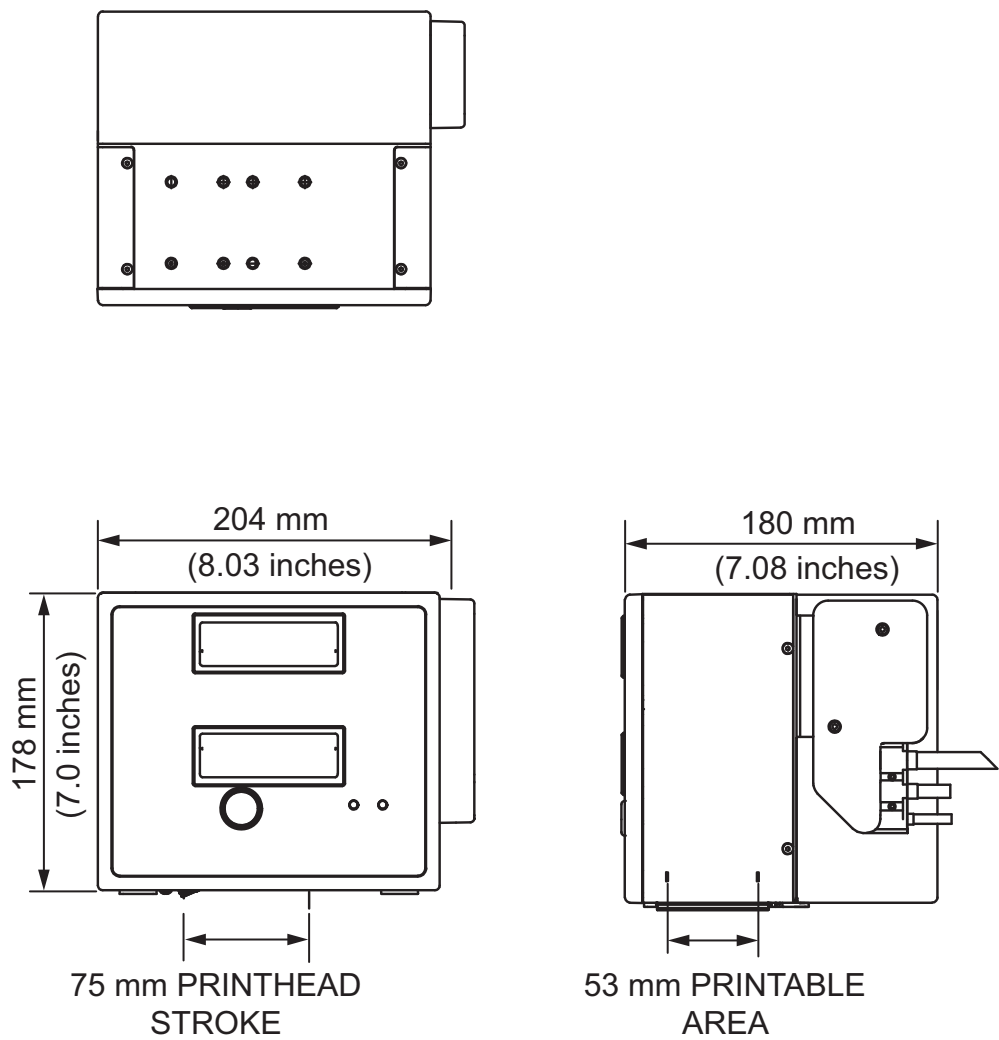

Figure A-1: Videojet DataFlex 6330 53mm RH Printer Dimensions
Figure A-1 shows the dimensions of the 53 mm (RH) printer.